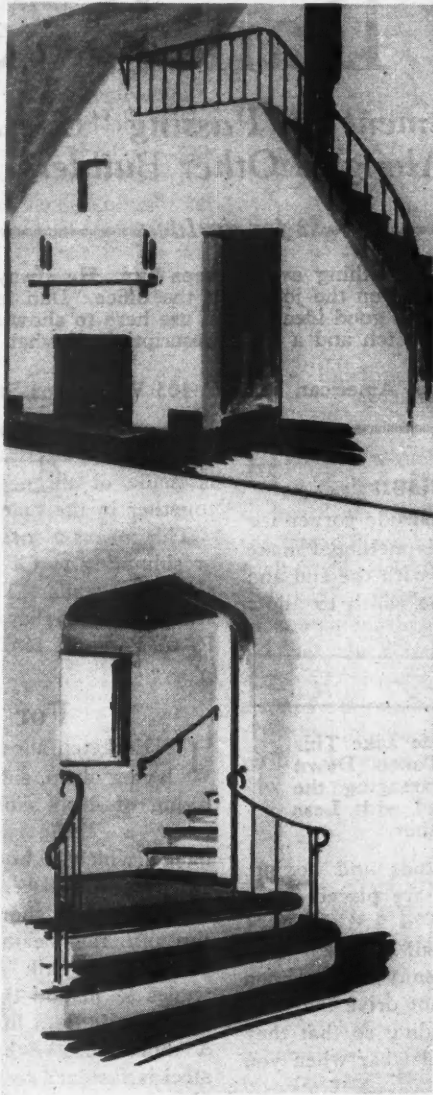

Fig. 2.
**ANSWER:** "There are many places where iron railings for stairs and steps should be used. Rails are first for safeguarding. When it is a matter of two or three steps the rail is left off at times because it might look cumbersome. There should be a rail, and there should be rails on either side if the steps are more than 3 feet 6 inches wide. The 'few steps' are the most dangerous. Notice the lower sketch in Figure 2.
"Then there is another view point. Many times the stair rail would be out of proportion with the rest of the room if it was not iron. For instance, take the upper sketch in Figure 2. Such arrangements are more or less common these days. How would this look unless iron railings were used? And with all the trim missing, or at least most of it, how could this railing be carried unless it was iron? It is surprising that wrought iron is not used as much as it might be. With the new styles for interiors, the wrought iron decorations can nearly go the limit, especially with the new styles in wrought iron hardware. When it is used as it should be there is nothing prettier than wrought iron rail."